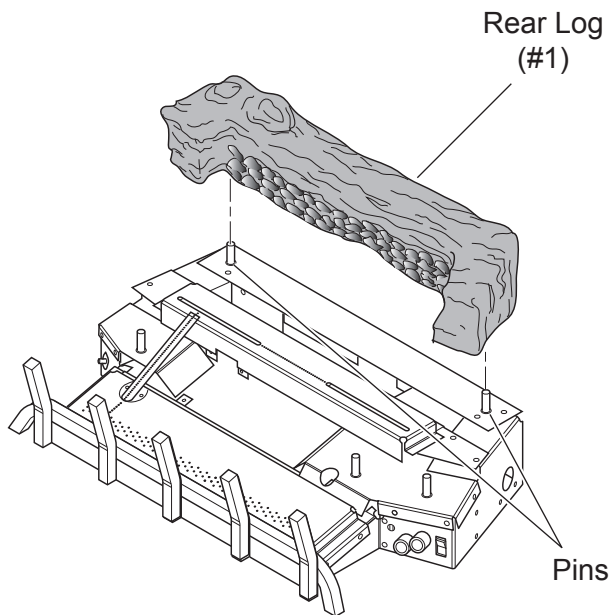

Figure 30 - Installing Back Log (#1)
1. Install back log (#1) on two pins (2) located near the back of base. Check log position and stability. *See Figure 30.*